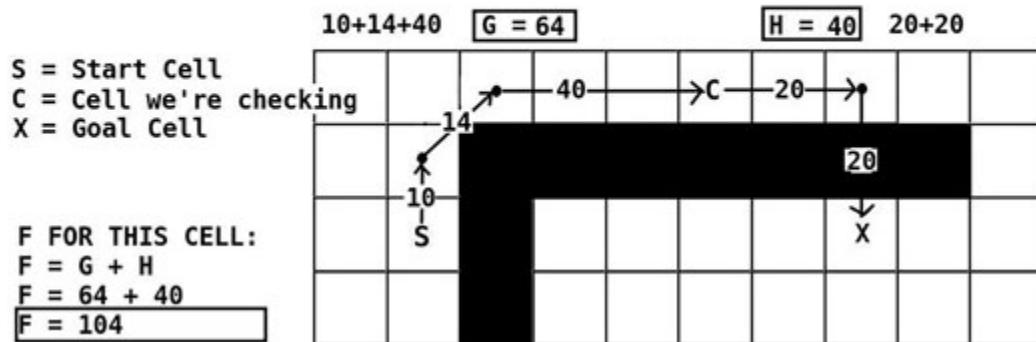
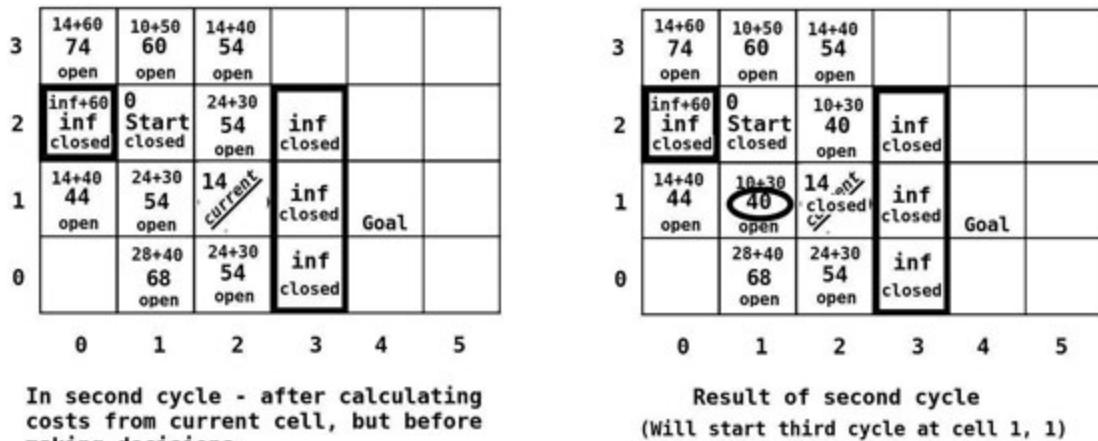

Figure 13.7: Calculating G, H, and F, costs for one cell as part of the A pathfinding algorithm*
Figure 13.9: The second A cycle*
The heuristic can be a lot of things, but the most common for our simple maps is to use either the straight-line distance from the cell to the goal or the **Manhattan distance**, calculated as if there were no obstacles in the way. It's not perfect, but it is a pretty good bet. I'll use Manhattan distance for all my examples just because I think it's slightly easier to read the code. Look at the following figure 13.7 for an illustration on calculating one cell's **G**, **H**, and **F** costs before we start fitting this into an algorithm.
Now we add the current cell to the closed list and make the cell with the lowest F the current cell. So now current is cell 2,1 and we have two closed cells and seven open cells, including current. The results of the first cycle are on the right side of figure 13.7, and this is the starting point for the second cycle. See figure 13.9 below for an illustration of the second cycle.
Step 4: (yes, step 4 again. This will repeat until we find the goal or determine there is no path. Refer to figure 13.9).